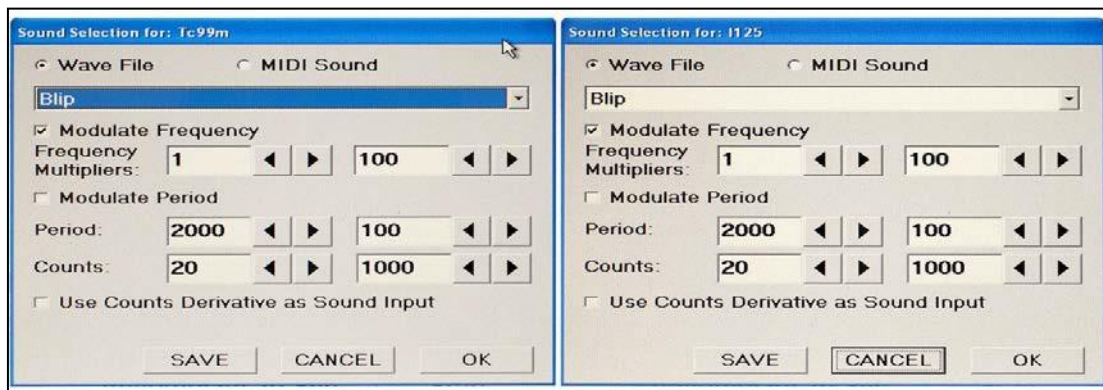

Figure 14: Sound Selection Dialog Boxes
- **Sound Configuration Buttons** – There are two Sound Configuration dialog boxes: one for Tc-99m and the other for I-125. Pressing one of these buttons brings up the appropriate dialog, differing only in the isotope indicated in the title bar. They are represented in Figure 14, below.